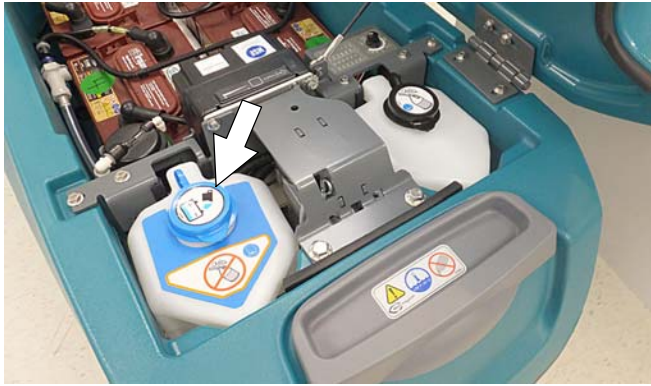

FIG. 29
1. Lift the recovery tank to access the automatic battery watering tank (Figure 29). Drain recovery tank before lifting tank.